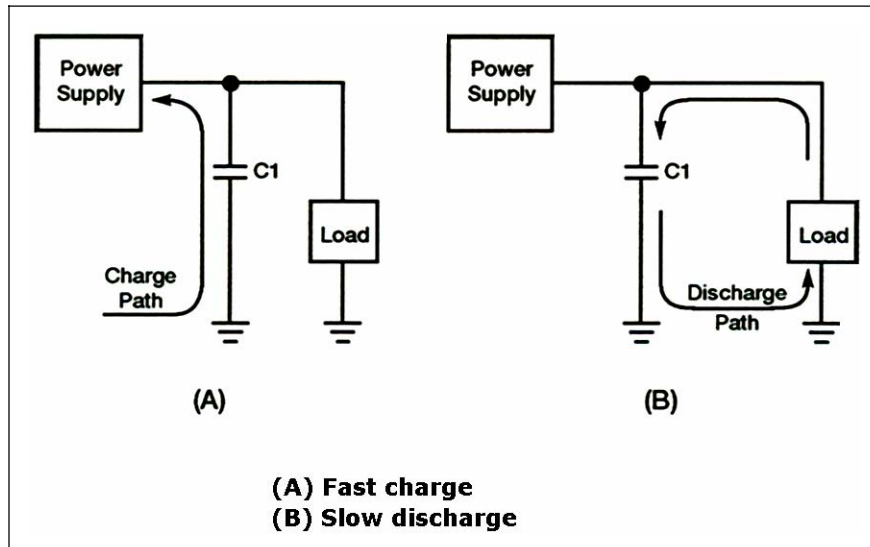

Figure 4-10. Capacitor Filter
4-30. You can see from the formula that if frequency or capacitance is increased, the X_C decreases. Since filter capacitors are placed in parallel with the load, a low X_C will provide better filtering than a high X_C . To do this, a better shunting effect of the AC around the load is provided (see Figure 4-10).
4-31. To obtain a steady DC output, the capacitor must charge almost instantaneously to the value of applied voltage. Once charged, the capacitor must retain the charge as long as possible. The capacitor must have a short charge time constant. You can do this by keeping the internal resistance of the power supply as small as possible (fast charge time) and the resistance of the load as large as possible (slow discharge time). Figure 4-10, view (A), shows the fast charge time and view (B) shows the slow discharge time.